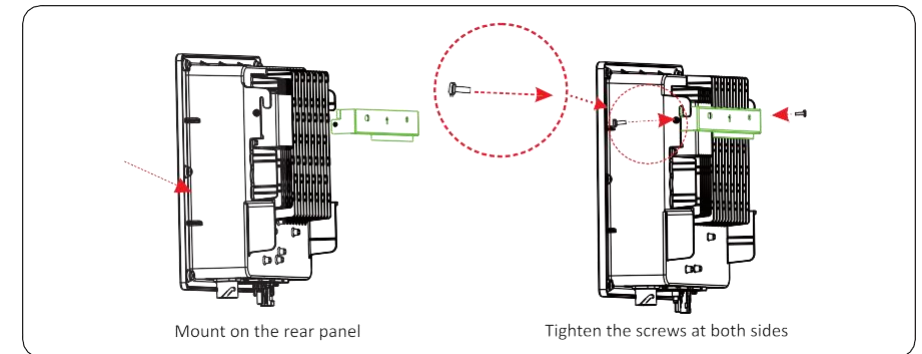

Figure 4.14 Securing the inverter
Step 2 Mount the inverter on the rear panel and keep them aligned with each other, as shown in Figure 4.14.
Step 3 Tighten the two hexagon screws at the both sides of the inverter to a torque of 1.2N.m and 3N·m respectively. Screw specs for 1.5K-3.6K and 4K-6K are M4 and M6 respectively, as shown in Figure 4.14.